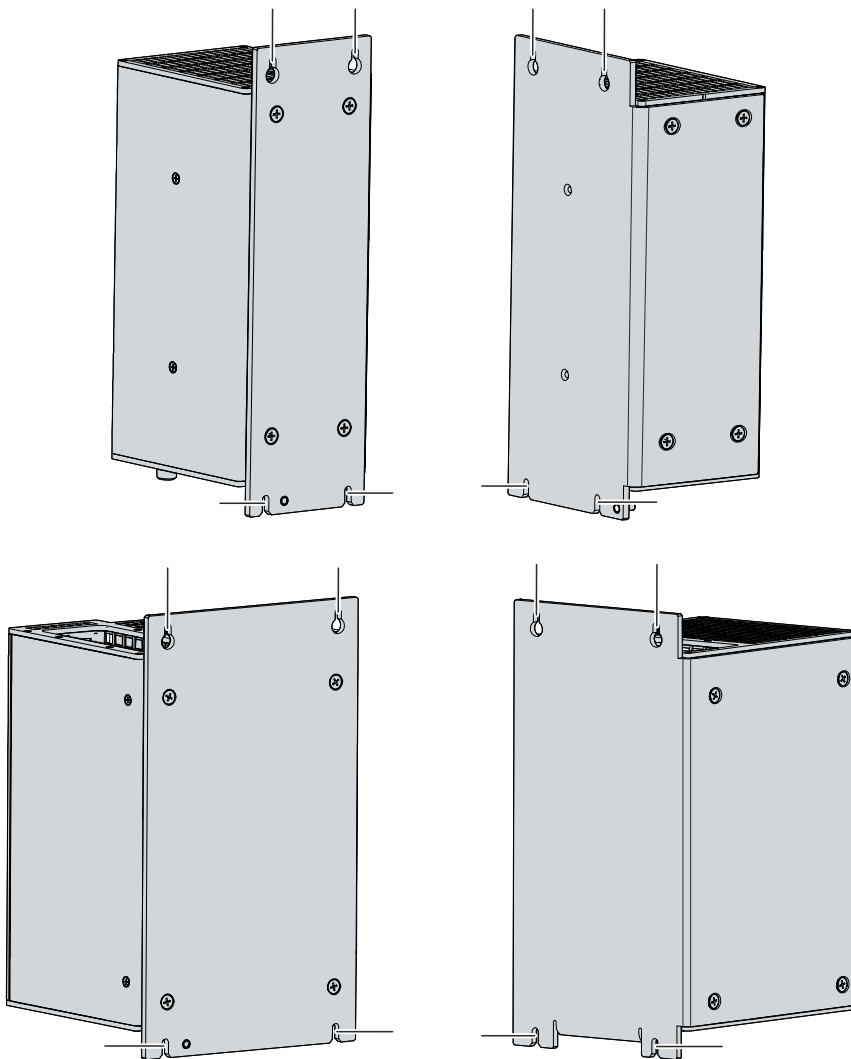

Fig. 22: C6930\_Dismantling the control cabinet
2. Lift the PC far enough so that the mounting screws slip into the keyholes (see fig. 22).